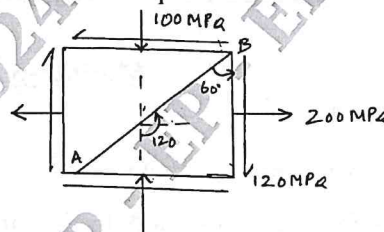

Fig.Q3(b)
- b. At a point in a strained material, the stresses acting are shown in Fig.Q3(b). Determine